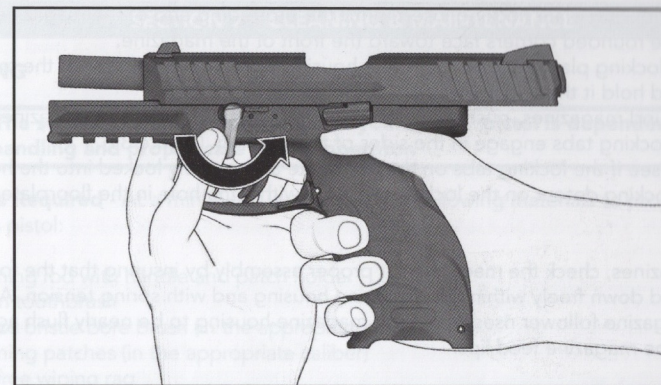

Figure 28 — Pivot the disassembly lever counter clockwise
9. Pivot the disassembly lever counter clockwise so that the lever lies horizontal to the bottom of the slide (see Figure 28).